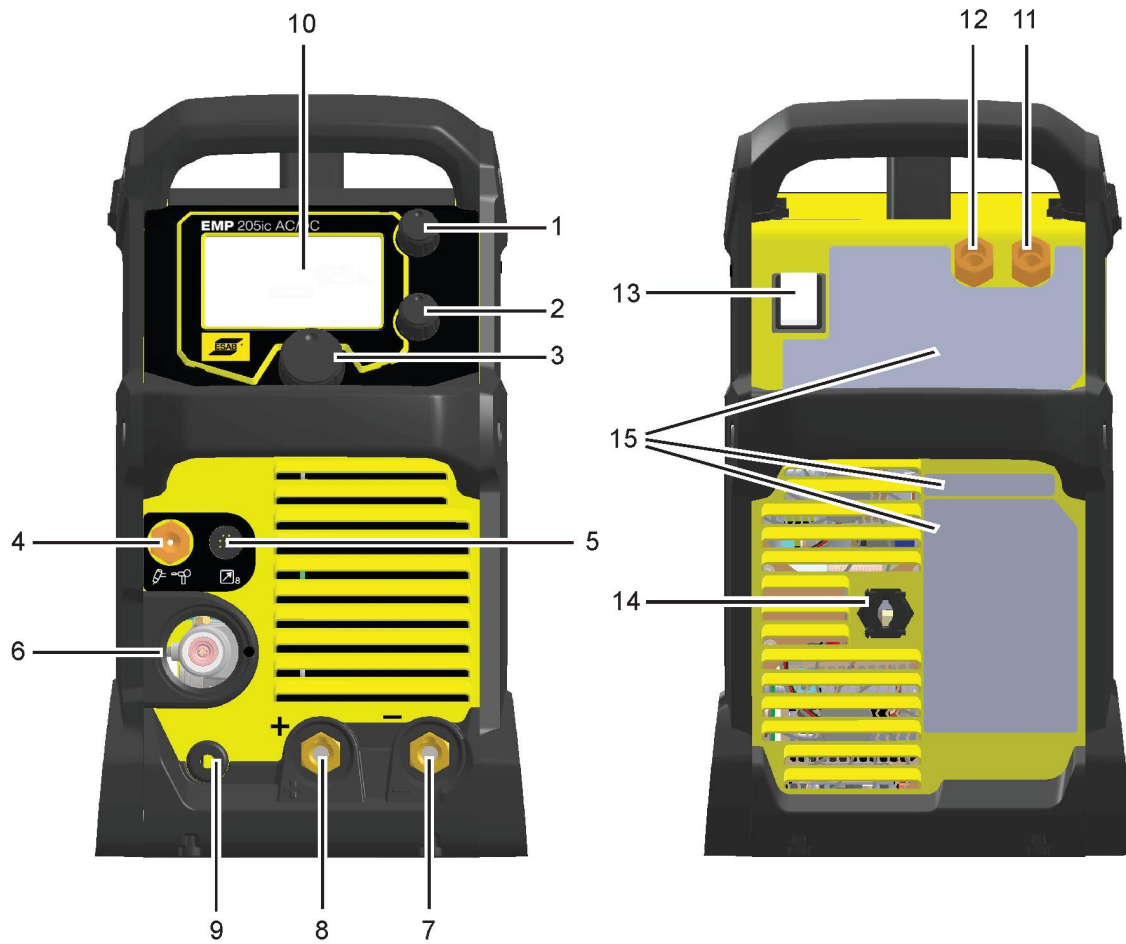

Figure 1. Front & rear views: Model EMP 205ic AC/DC
The power source has two outputs for connecting welding and return cables: a negative [-] terminal (7) and a positive [+] terminal (8) (see Figure 1).
For TIG process (requires optional TIG accessories), connect the TIG torch power cable to the negative [-] terminal (7), see illustration. Connect the gas inlet nut on the TIG torch to the gas outlet connector (4) located on the front of the power source. Connect the gas inlet nut (12), on rear panel, to a regulated shielding gas supply. Connect the work return lead to the return-cable terminal (9). Connect the torch connector to the torch connection (6) (see Figure 1).